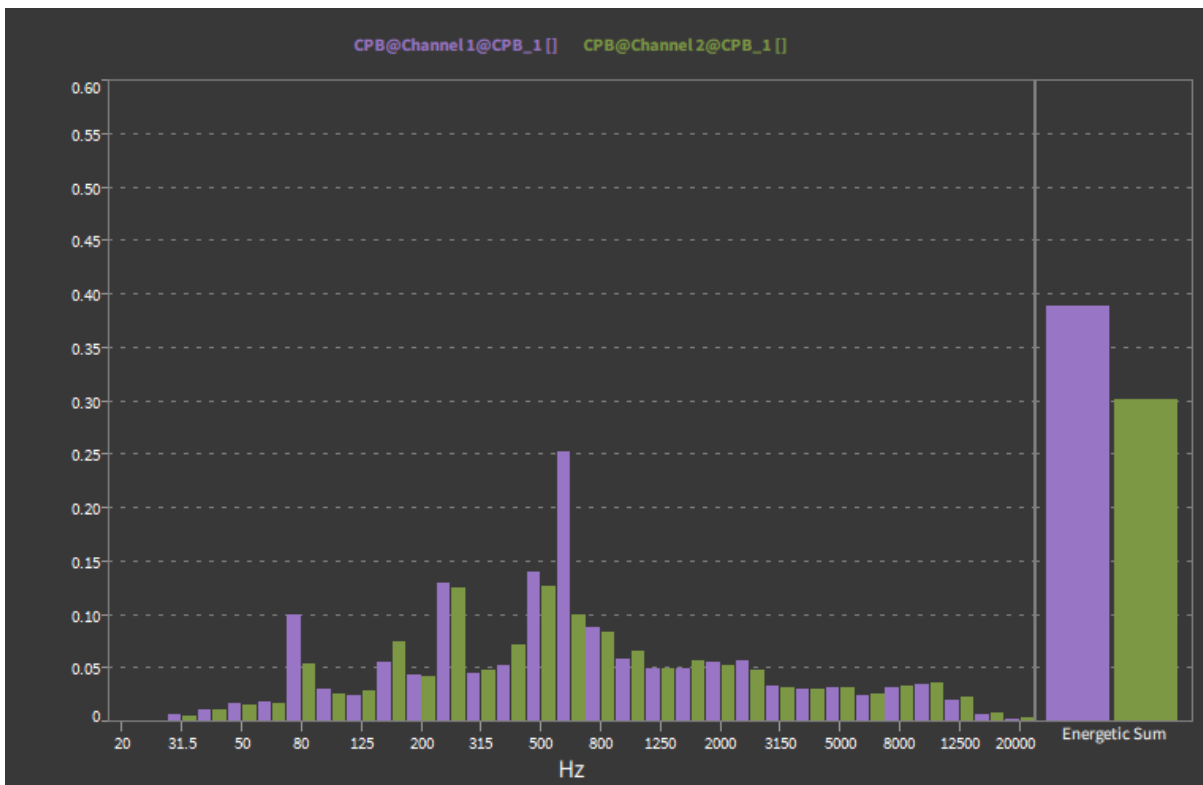

Fig. 8.109: Array Chart with *Total* column included
- Total Computation: It is possible to include a *Total* column (see Fig. 8.109) on the right hand side that display the following value: